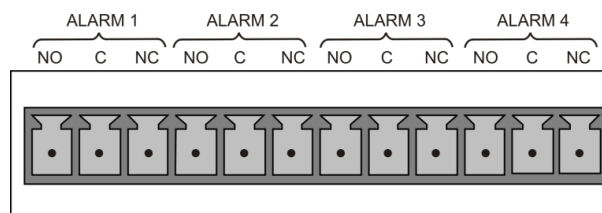

Figure 2-8. Concentration Alarm Relay
The concentration relay option provides four (4) “dry contact” relays on the rear panel (Figure 2-8), each with 3 pins: Common (C), Normally Open (NO), and Normally Closed (NC). The Relays can be mapped to reflect various internal instrument conditions and states. Configure these outputs through the Setup>Digital Outputs menu (Section 2.5.7) under MB Relay [1 thru 4].